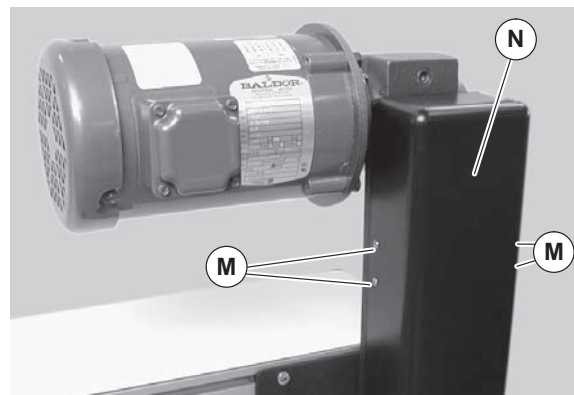

Figure 14
- a. Remove four (4) screws (Figure 14, item M) and cover (N).